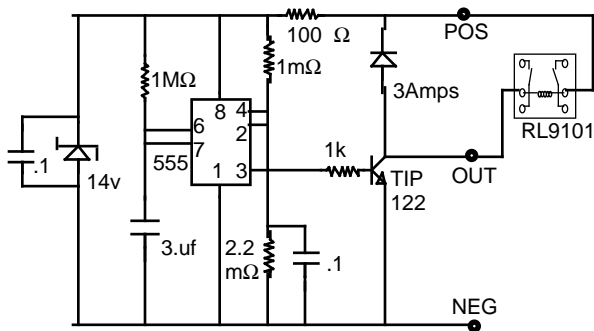

Figure 3a
- The controller can be held at full throttle (during REGEN) by pulling pin 5 of IC 5 high to VS through a 100 k $\Omega$  resistor. Older models (board 98627C) needed a 47 k $\Omega$  resistor. The pull-up resistor should be the same value as R62. IC 5 is the fifth IC from the end with KSI and pot terminals on it. VS is the only square pad on the test terminals on the top of the board. I connected both the current limit adj. and the pull-up resistor through a DPST relay with shielded wire inside the controller. The DPST relay needs a small delay (two/tenths of a second) to prevent the REGEN from turning on before the contactors have finished switching (Figure 3a, next page). Switching the contactors under load will cause them to melt down and could ruin the controller with high voltage spikes.